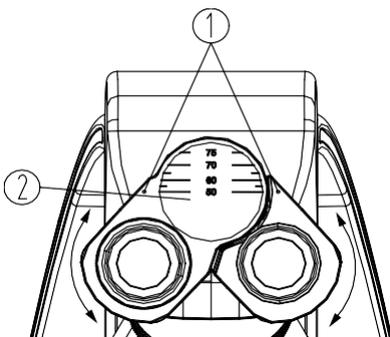

Fig.12
When using two eyes to observe, hold the bases of the prism and rotate them around the axis to adjust the inter-pupillary distance, until there is only one field of view. The dot “.” ① on the eyepiece base points to the scale ② of the inter-pupillary distance indicator. The scale value is the inter-pupillary distance (See Fig. 12).